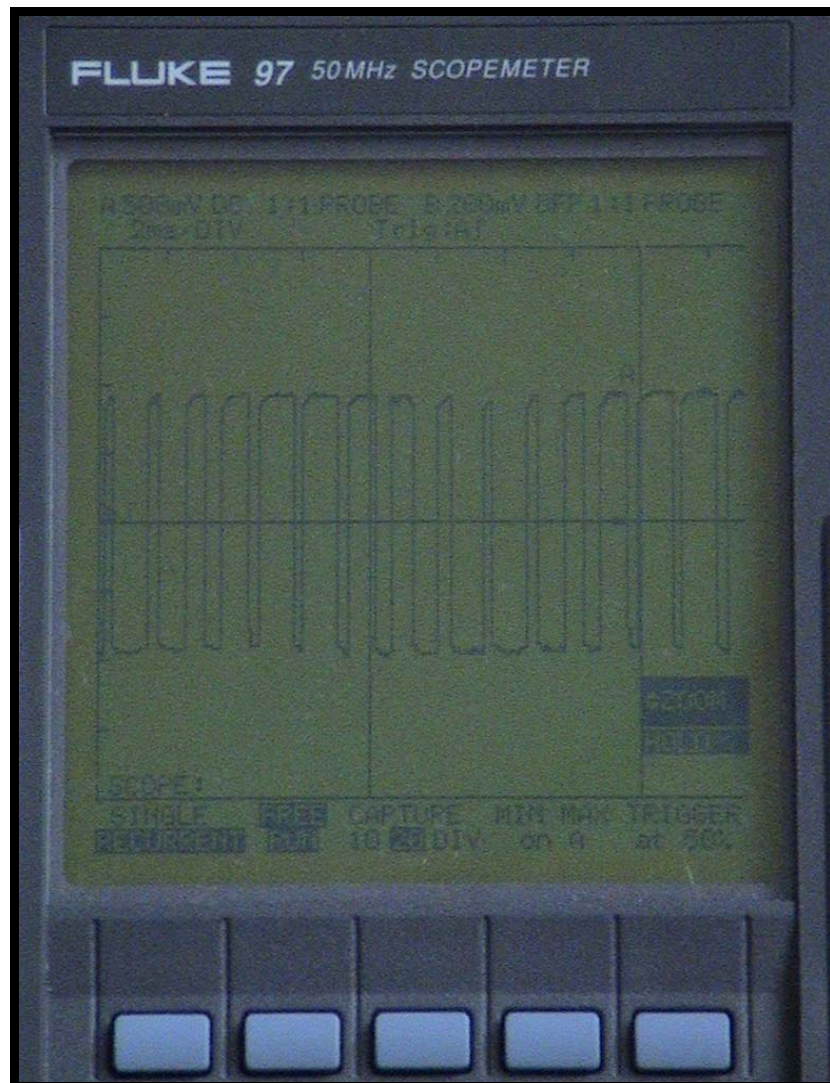
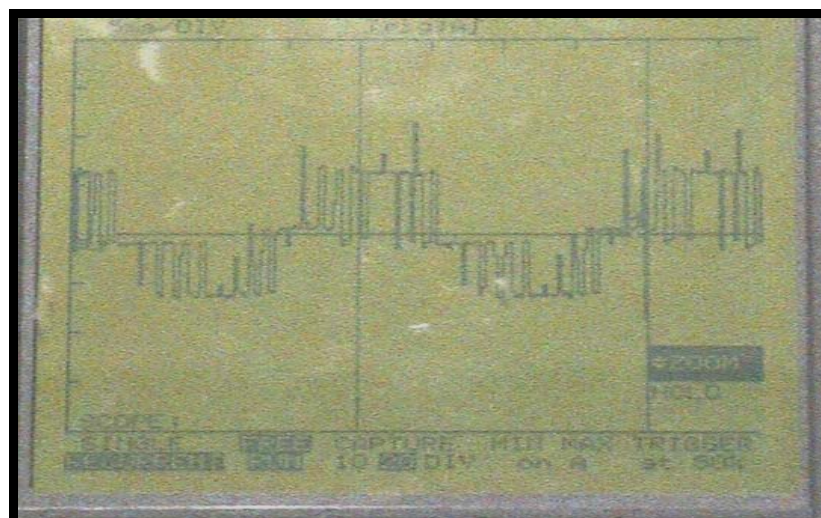
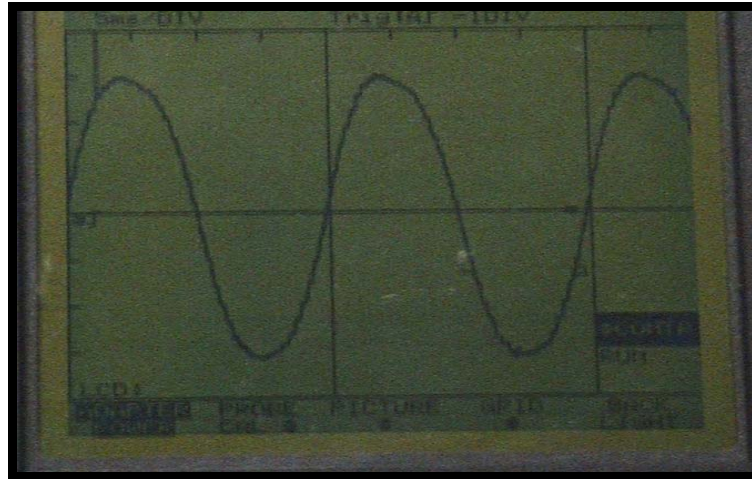
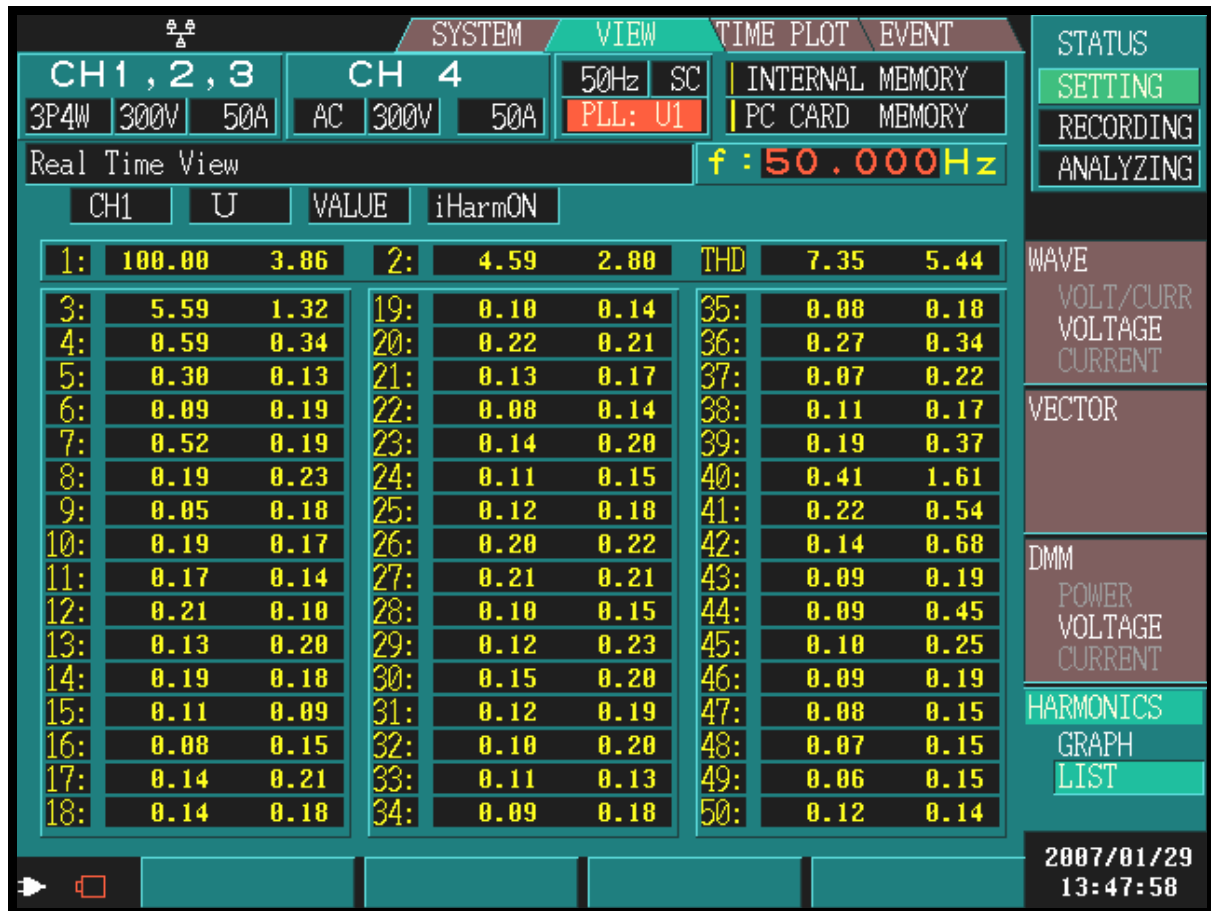

Figure 5. Pulse train ($m=10$) of Atmel 89s2051
Figure 6. Secondary Side Transformer Output
Figure 7. Filter Output
Figure 8. Harmonic measurement result (Hioki)
Pulse train as shown in figures 5 is produced interchangeably from port (A) and port (B) by microcontroller 89S2051 during the positive half and negative half of the sine wave. The pulse train is then inputted to the MOSFET power switching circuit, which is next directed to the primary side of the transformer. Output of the secondary side is shown in Figure 6, which then be filtered resulting in the sine wave as seen in figure 7, where amplitude attenuation can reach up to 50%. Measured inverter output THD reaches 5-8%, where the largest harmonics appeared to be the second and third harmonics as shown in figure 8.